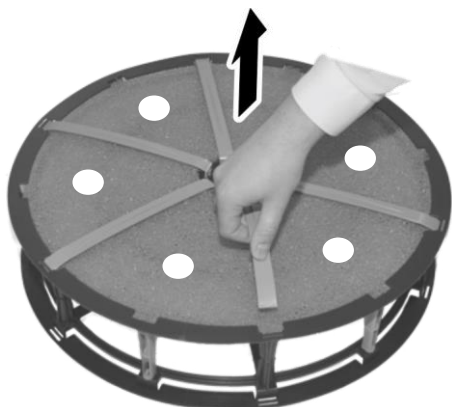

Fig. 23: Releasing the filter brackets and remove the fixing pins.
4. ➤ Release the filter brackets from the filter drum and fold them up. Remove the white fixing pins and set them aside (Fig. 23).